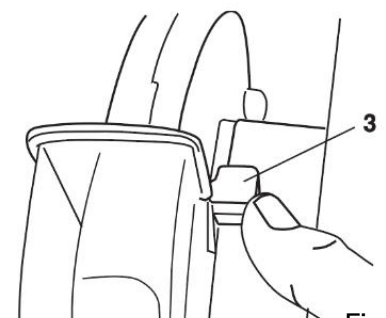
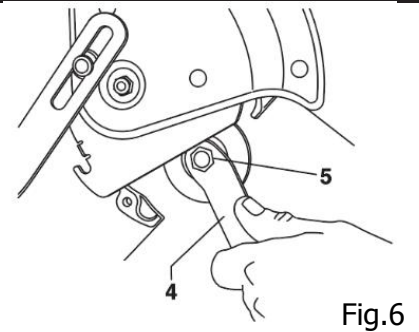

Fig.5
Fig.6
4. The guard plate should rotate up (counter-clockwise) to expose the blade bolt 5 (Figure 6)
5. Push in the arbor lock 3 to hold the blade (Figure 5). Using the hex wrench 4 supplied with the saw, turn the blade bolt 5 clockwise to remove it (Figure 6)